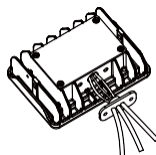

figure 1.1
- Step 2: pass the three wire through rubber mat; (figure 1.1)